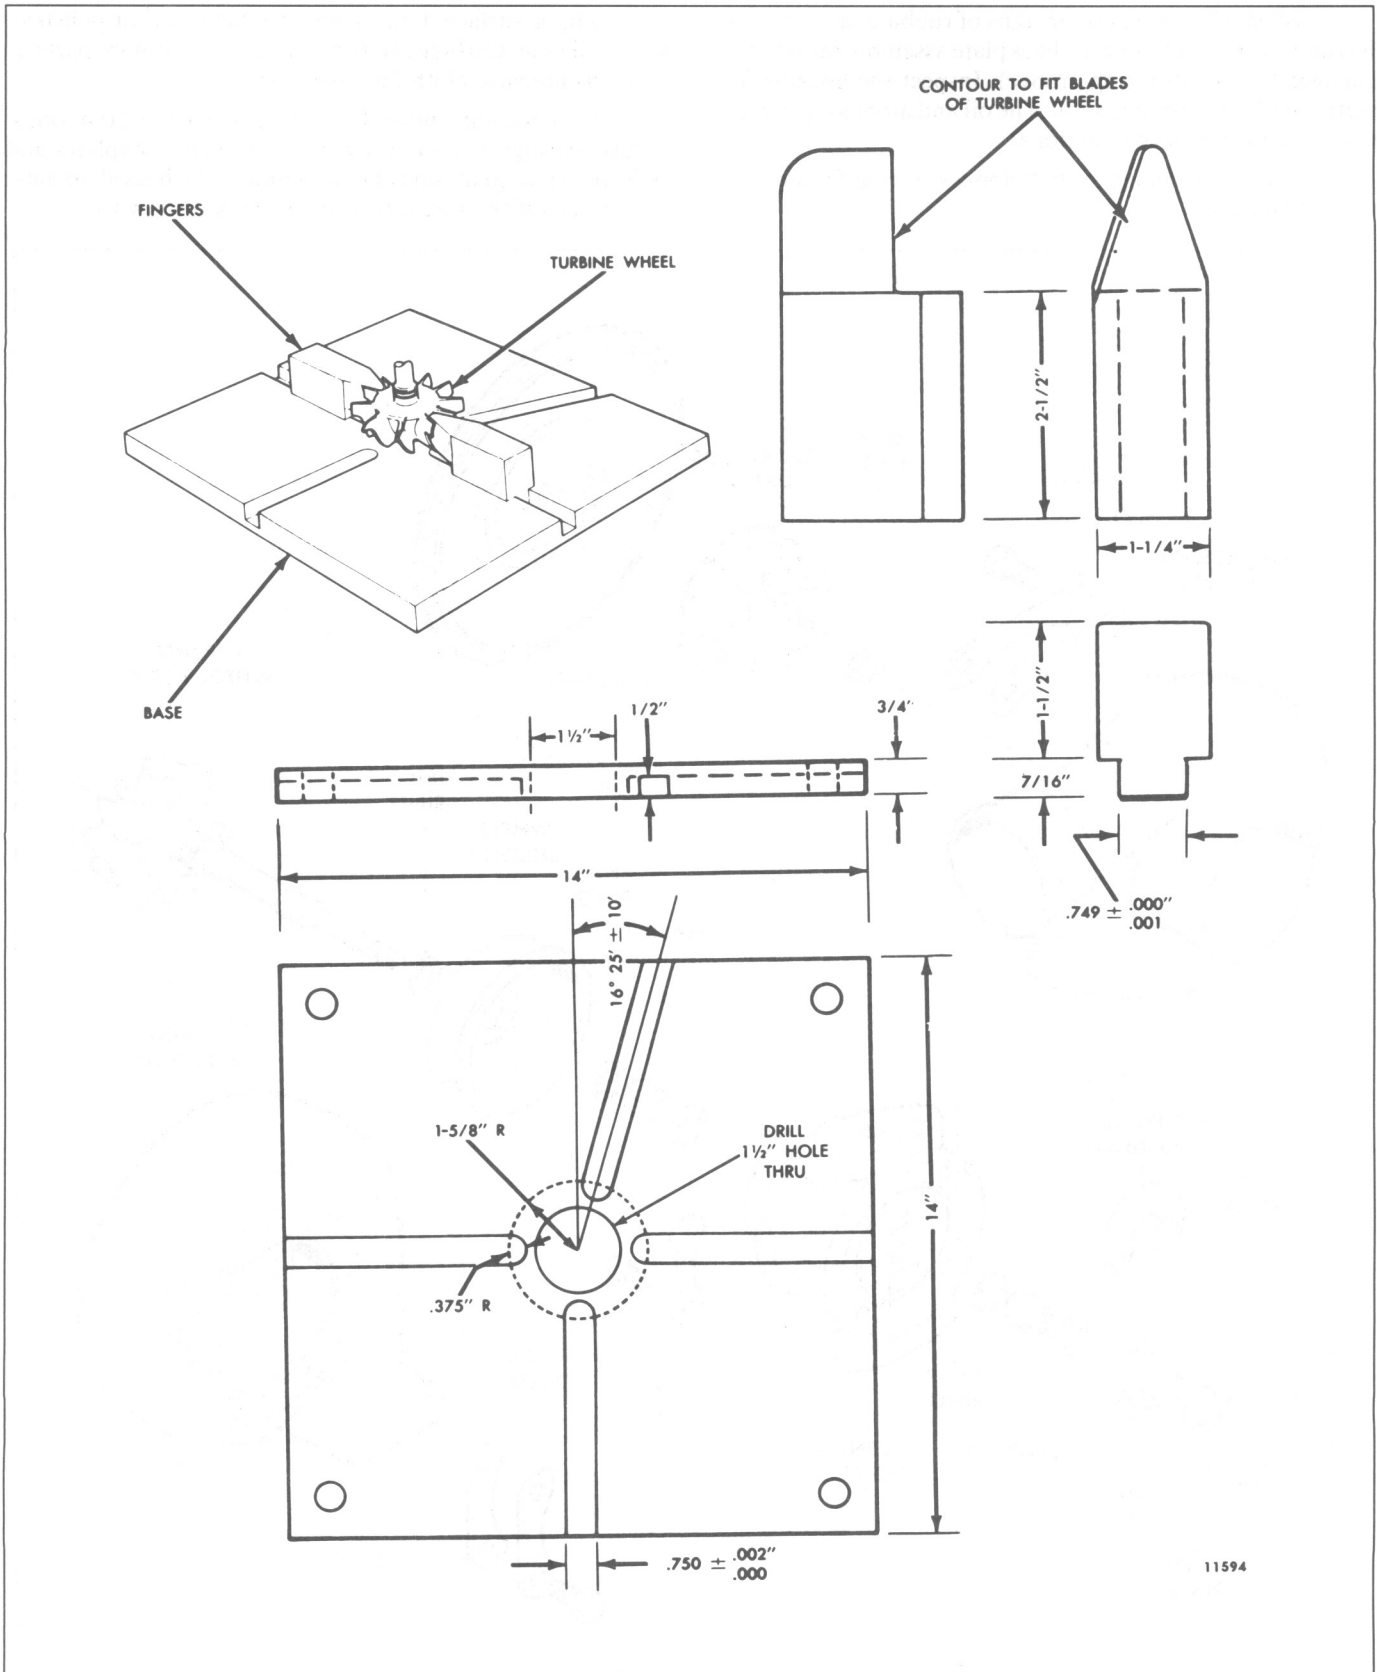

Fig. 10 - Turbocharger Holding Fixture
- Position the turbine wheel (9) of the center housing assembly in a suitable holding fixture (Fig. 10). Remove the wheel nut (7) from the shaft.
9. On TV71 and TV81 turbochargers, install a new turbine piston ring (11) on the wheel shaft assembly.
10. Position the wheel shroud (10) against the center housing (27) and insert the wheel shaft assembly (9) through the wheel shroud and into the center housing. Lubricate the wheel shaft assembly journal prior to assembly.
11. Place the turbine wheel shaft assembly, shroud, center housing and backplate upright in a suitable holding fixture as shown in Fig. 10.
6. Place the turbine wheel shaft assembly, shroud and center housing upright in a suitable holding fixture, as shown in Fig. 10.